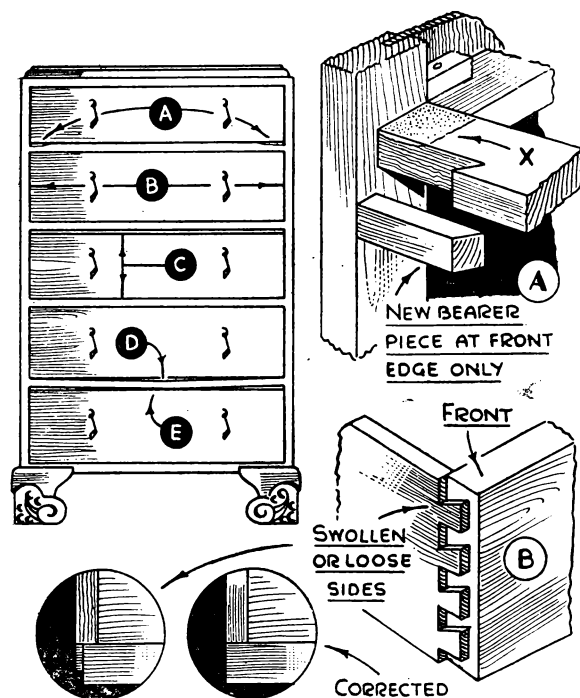

FIG. 1. FRONT ELEVATION OF A TALLBOY CHEST. A, B, C, D, and E show common drawer and bearer faults. A and B are corrected as shown.
**Worn Bearers.**—The trouble at A, Fig. 1, is worn bearers. While runners might take up most wear and tear, the top ends of the bearer rails generally suffer more. A heavily laden drawer, half withdrawn, creates a forced weight and strain on the bearer and its joints. The remedy is to fit a new bearer, and this is easy enough if the ends of the old one are a push, trench-dovetailed fit (a method frequently adopted when gables are solid, the trenching being covered by the drawer runners).
If tenoned, or dowelled, however, the amount of work involved in order to fit a bearer is hardly worth while. The alternative is to get a fresh “leading edge” the full length of the bearer. One can, however, save much time and bother—and extra wood—by facing the bearer ends only (A, Fig. 1). The new pieces are a dovetail fit at one end. Recesses cut in the rail must not be too deep,  $\frac{1}{4}$  in. being the maximum. The length, of course, depends on the state of the bearer at the face. An extremely tight fit should be avoided to prevent forcing the bearer joint away from the leg or gable.
**Runners and Guides.**—When runners are worn away, do not fit new ones. Remove the old runners carefully and replace them *upside down*. This saves wood, and the busy worker will appreciate the time saved, moreover. The undersides of the runners are usually quite flat so that, when reversed, they serve as new runners. Regarding guide slips, they may need to be replaced; much depends on their condition. If square in section, they can be turned over on one side. When the runners and guides have been altered with new facings on bearers, a resultant hollow is formed, as at X, Fig. 1. This is best levelled up with plastic wood.